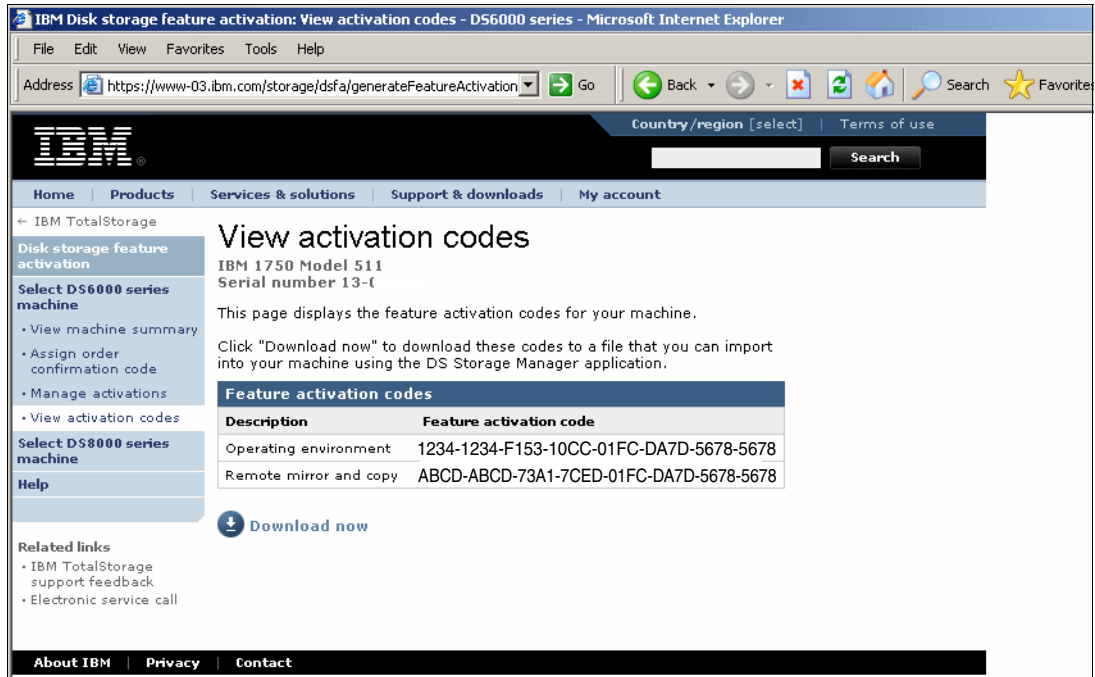

Figure 8-8 View activation codes window
- When you have finished managing your activations, you should proceed to the View Activation Codes window, as shown in Figure 8-8 on page 152. From here you can download, or highlight, then copy and paste, or write down, your activation codes. If you select **Download now**, you will be prompted to select a file location. The file you download will be a very small XML file.